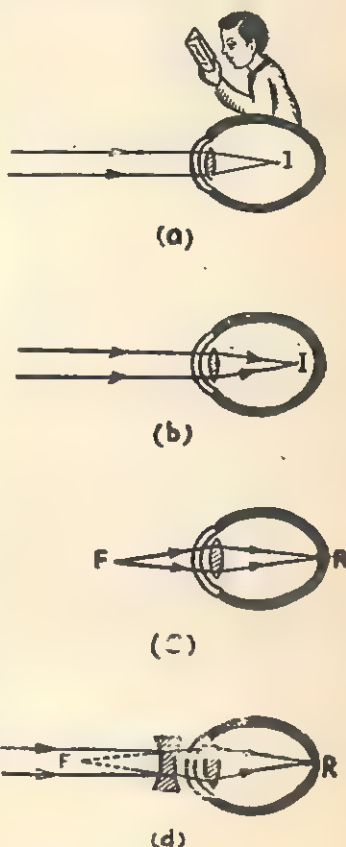

Fig. 11.4. For a myopic eye, the eye ball is elongated or it is too long. (Short-sight defect.)
(ii) **Short Sightedness.** The short sightedness is caused by the eye-ball being too long or too much flattened as shown in Fig. 11.4 (a). For such an eye the parallel rays, coming from infinity, are focused at a point *I* in front of the retina as shown in Fig. 11.4 (a) and (b). The actual **Far Point** *F* for such an eye may be only a metre or so as shown in Fig. 11.4 (c). This defect of vision is known as **Myopia**. This defect of vision is also called *Near Sightedness* because the person can see the near objects clearly.
The reader keeps the book closer to see the print distinctly when he does not use specs [Fig. 11.4 (d)].
**Correction.** A short sighted eye is corrected by the use of a divergent lens of suitable focal length. This lens diverges the rays entering the eye just sufficiently to make the rays appear as if these are coming from eye's own *Far Point* *F* as shown in Fig. 11.4 (d).